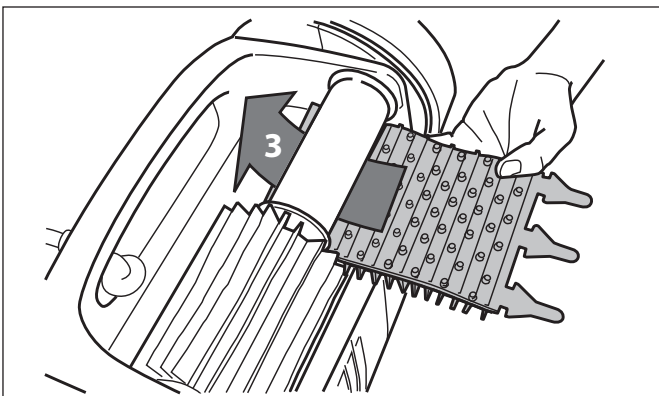

Figure 30. Install the New Brush
3. To install the new brush, position the new brush on the roller with the cleaning blades facing away from the roller (Figure 30).